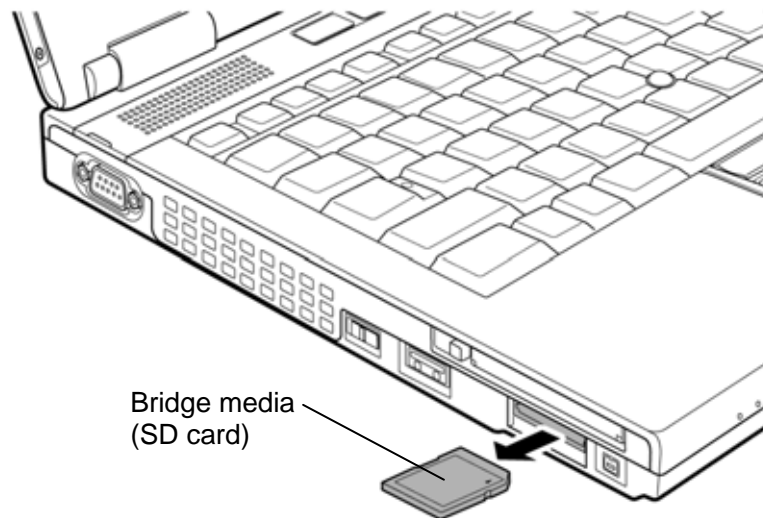

Figure 4-5 Removing the Bridge media
To remove the Bridge media, follow the steps below and refer to Figure 4-5.
1. Push the **Bridge media**. It will pop out partly when you release, so pull out the card. (For an instance, SD card is described in the figure 4-5.)
To install the Bridge media, follow the steps below and refer to Figure 4-5.